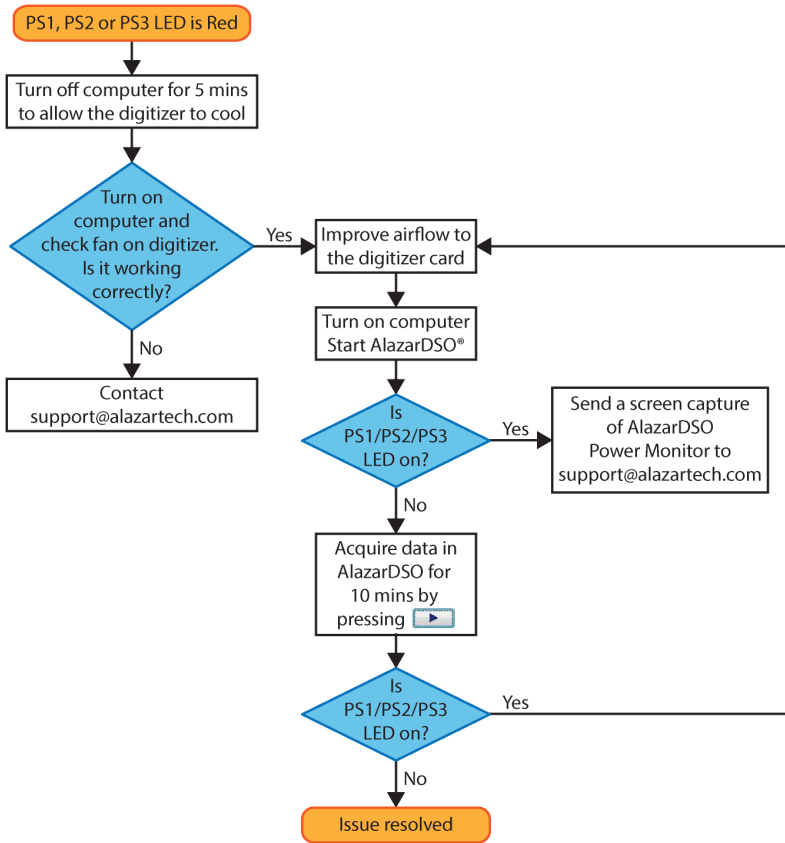

Figure 4 – Flowchart for Power Monitor Status LEDs
- **PS2:** Power Monitor error output from the board. This LED being red indicates that there is an overheating or power supply issue. Refer to *Figure 4 – Flowchart for Power Monitor Status LEDs* for steps to follow if this LED is red.
- **PS1:** Power Monitor error output from the board. This LED being red indicates that there is an overheating or power supply issue. Refer to *Figure 4 – Flowchart for Power Monitor Status LEDs* for steps to follow if this LED is red.
- **LED3:** Power Monitor error output from the board. This LED being red indicates that there is an overheating or power supply issue. Refer to *Figure 4 – Flowchart for Power Monitor Status LEDs* for steps to follow if this LED is red.